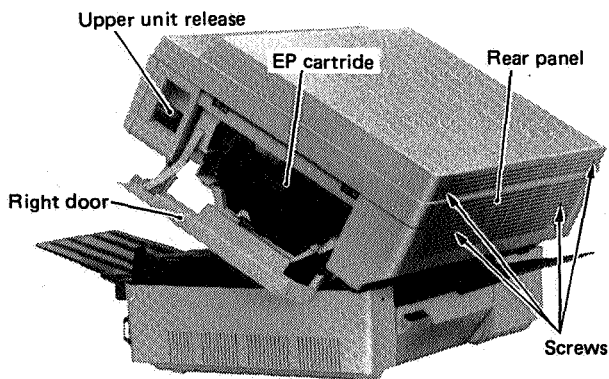

Figure 4-2
- (1) Open the printer (raise the upper half) and the right door. Take the EP cartridge out of the printer.
- (2) Remove the rear panel, the top cover, the left panel, and the left frame. (See Figs. 4-2 to 4-5, and 4-22.)
- (3) Pull the knob off the dial.
- (4) Remove the connector and the fastening nut. Take the dial out.
- (1) Open the printer (raise the upper half) and the right door. Take the EP cartridge out.
- (2) Close the right door first, then the upper half.
- (3) Remove the rear panel and the top cover, right panel, left panel, and front panel. (See Figs. 4-2 to 4-6.)
- (4) Take out the fan duct (6).